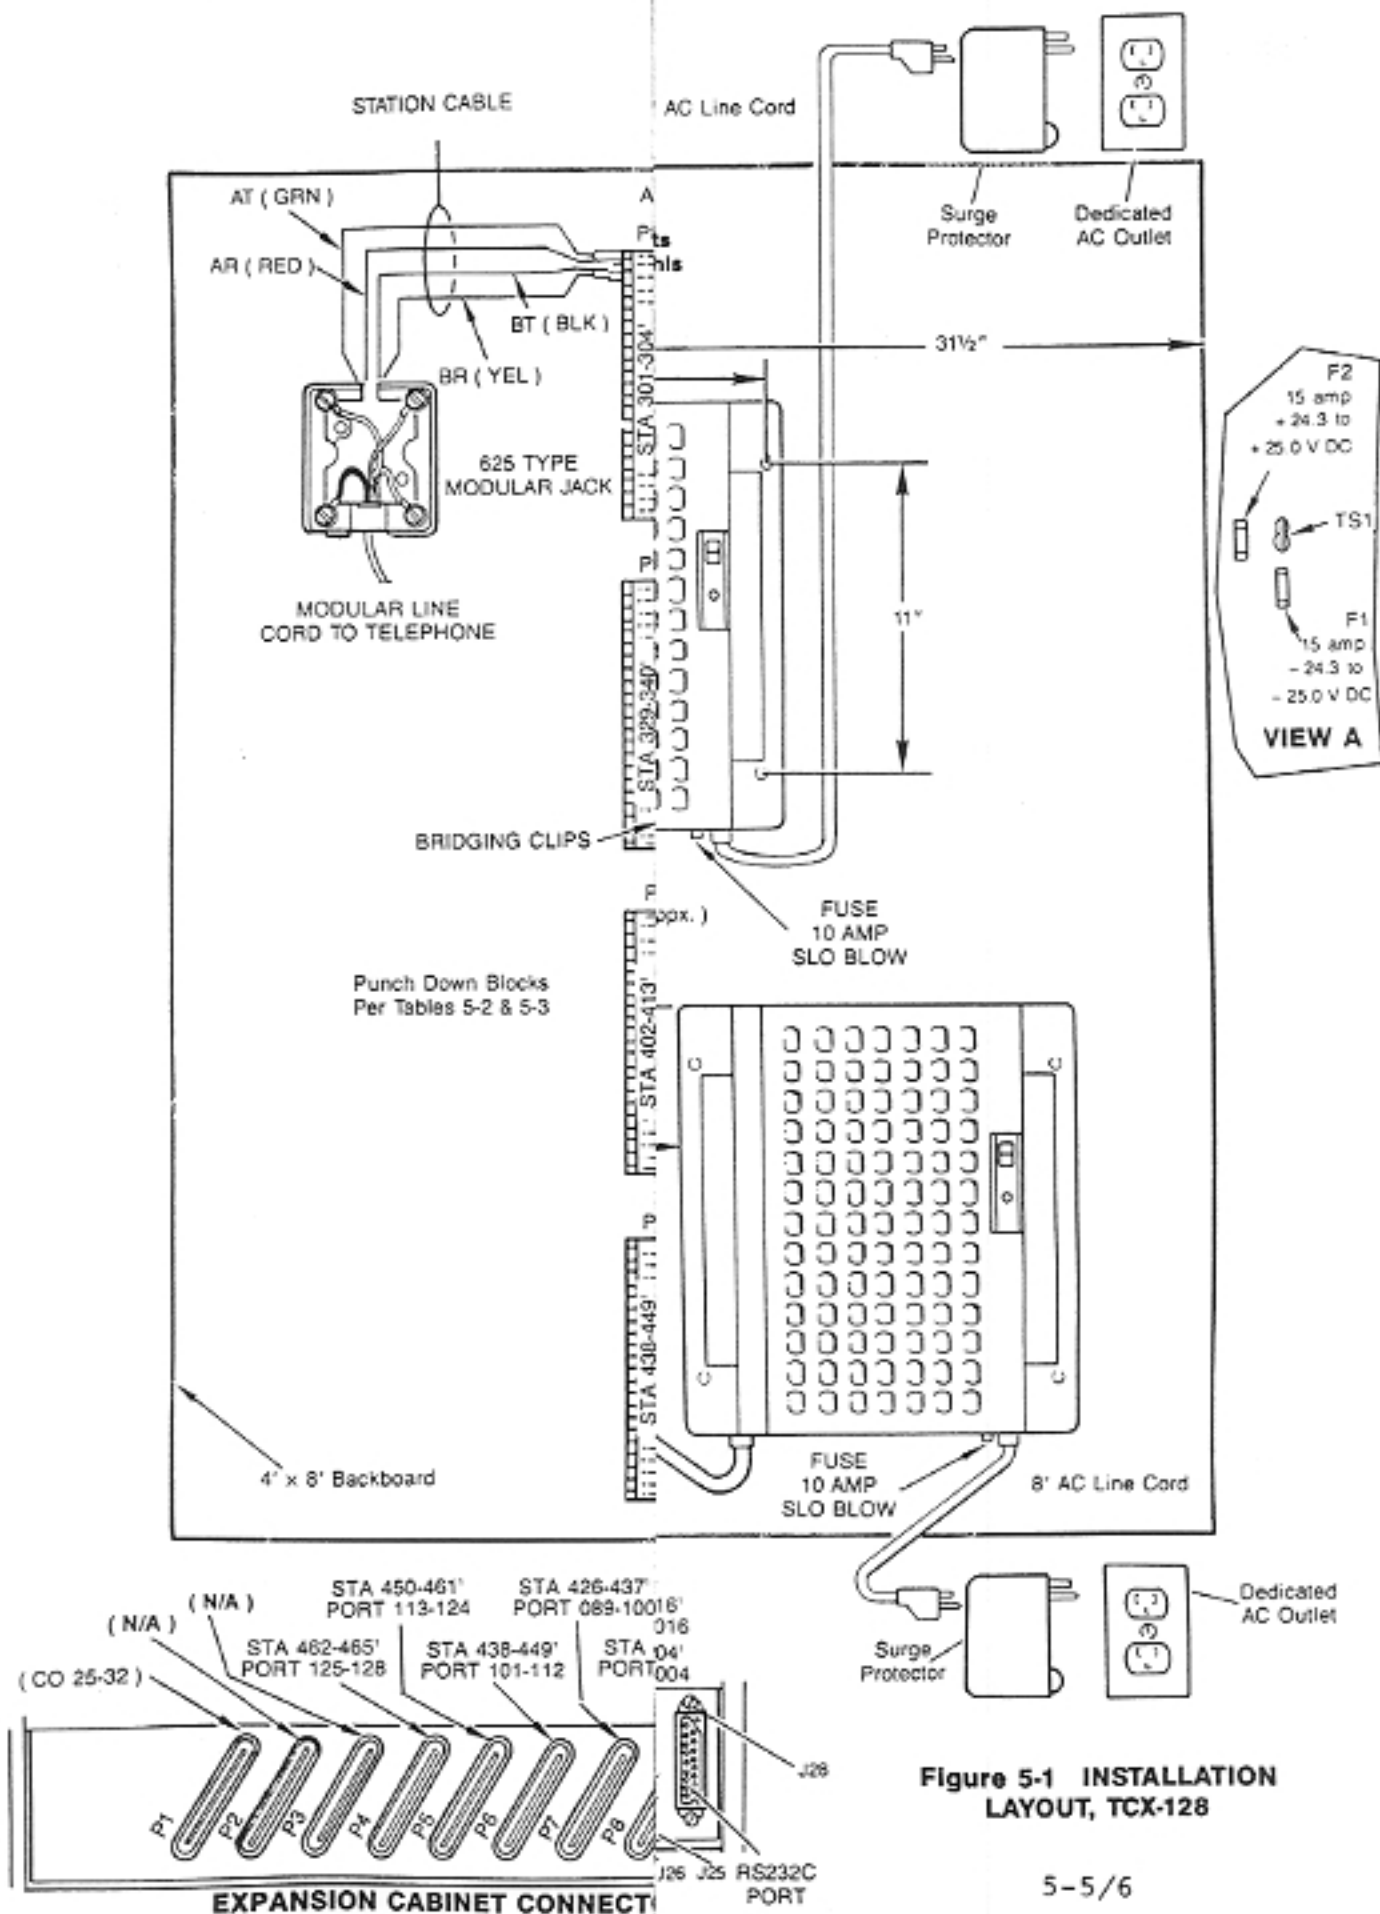

Figure 5-1 INSTALLATION LAYOUT, TCX-128
2.06 Read this entire section and prepare a KSU installation layout similar to Figure 5-1. Customize the layout for the particular site application.
3.03 Mount the plywood in the designated location with appropriate fasteners. Mark the equipment layout on the board using the installation layout drawing (Figure 5-1).
- Locate the upper right KSU mounting screw, approximately 31.5 inches (80.6cm) from the right edge of the backboard and 10.5 inches (26.9cm) from the top, according to Figure 5-1.
- Mark the remaining three points on the backboard that correspond to the mounting hole centers (Figure 5-1).
- Using Figure 5-1 as a guide, mark the expansion cabinet mounting hole centers.
- Mark the points on the backboard that correspond to the mounting hole centers for each power supply (Figure 5-1).
3.10 Ground the KSU by connecting the 14AWG ground wire to a cold water pipe or other known ground. The ground wire should be as short as possible. Connect the ground wire to the grounding lug (CWP GND) on the KSU backplane and the grounding clamp on the cold water pipe (Figure 5-1). To ground the expansion cabinet, run a short 14AWG ground wire from the XP GND lug on the KSU to the XP GND lug on the expansion cabinet.